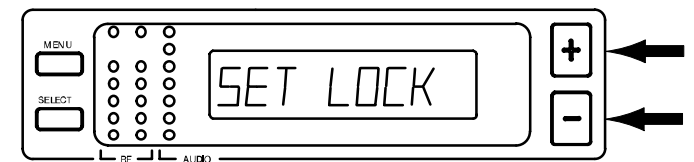

FIGURE 30
- Press either the + or - button to reach the SET LOCK display, as shown in Figure 30.